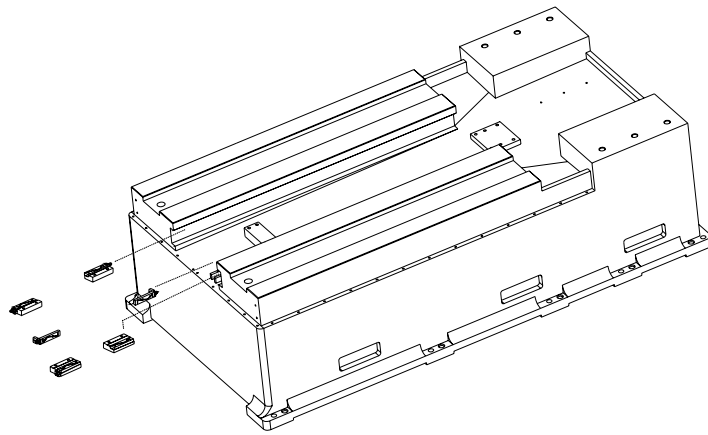

Figure 6-10 Base: gib & strap location.
- 3) Attach a magnetic base and indicator to the column, as shown in Figure 6-10.